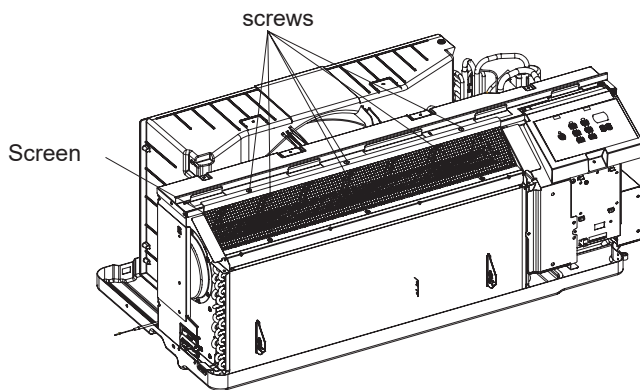

Figure 513
3. Remove screen (See Figure 513.)